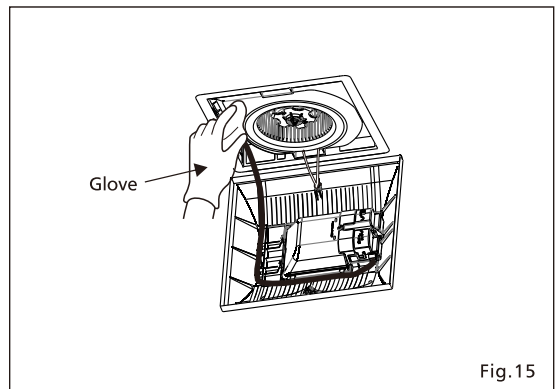

Fig. 15
4. Using a cloth dampened with kitchen detergent, remove any dirt from fan body. Wipe dry with clean cloth. (Fig. 15)